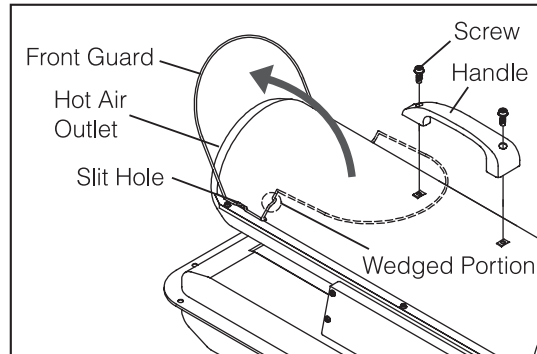

Figure 5
A. For DFA-45/DFA-70 Models Only (Figure 5)
2. Align the holes in the upper shell with the 2 mounting holes on the handle as shown in Figure 5.